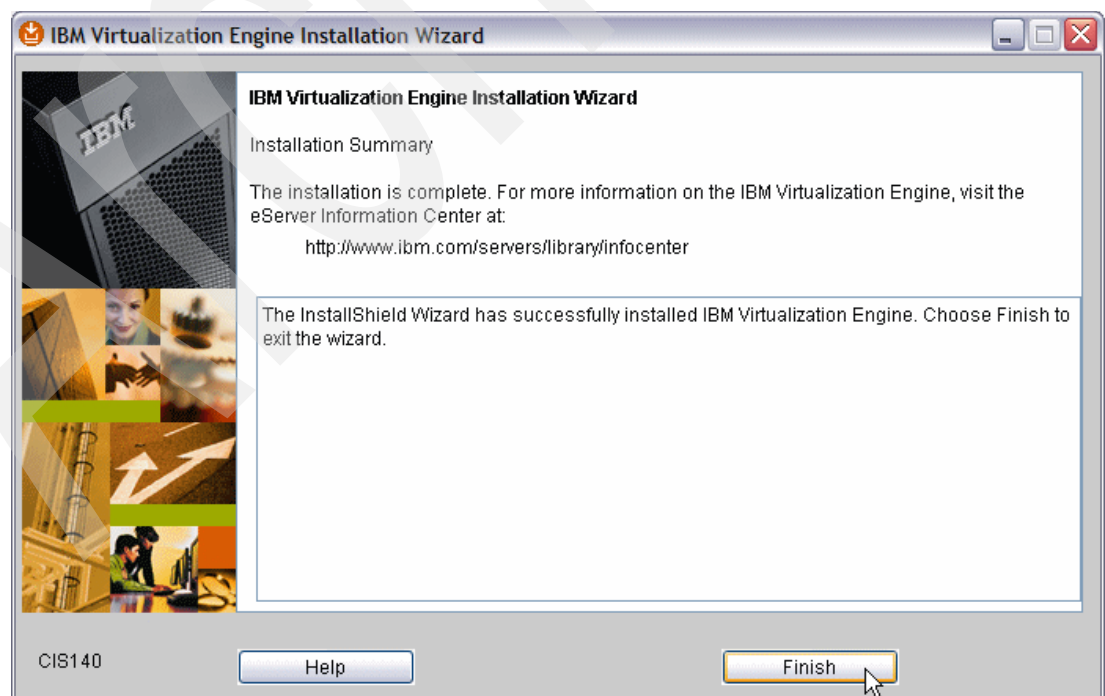

Figure 5-29 Installation Summary window
22.A Installation Summary window (Figure 5-29) opens that summarizes the results of the installation. Click **Finish**.